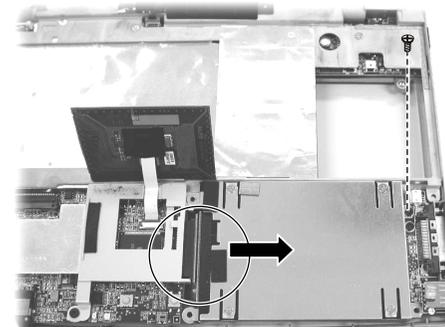

Figure 2-15 Slack the Hard driver
4. Remove the screw at the upper right corner of the hard disk, then slide the hard disk drive outward to unplug the connector and take out the hard disk drive. (See Figure 2-15)